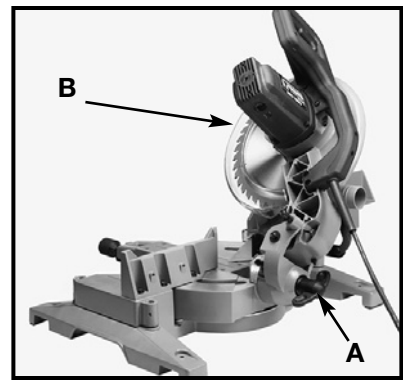

Fig. 18
2. The cuttinghead of your compound miter saw can be tilted to cut any bevel angle from a 90° straight cut-off to a 45° left bevel angle. Loosen bevel lock handle (A) Fig. 18, tilt cuttinghead (B) to the desired angle, and tighten lock handle (A).